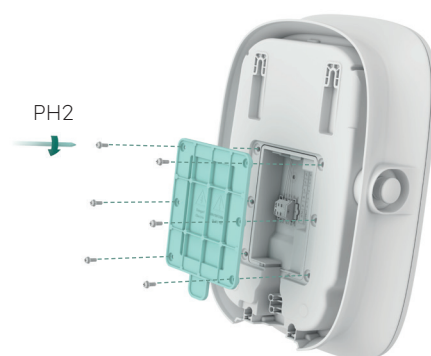

Figure 12 Closing the rear cover
- 10 Close the rear cover, as shown in Figure 12.